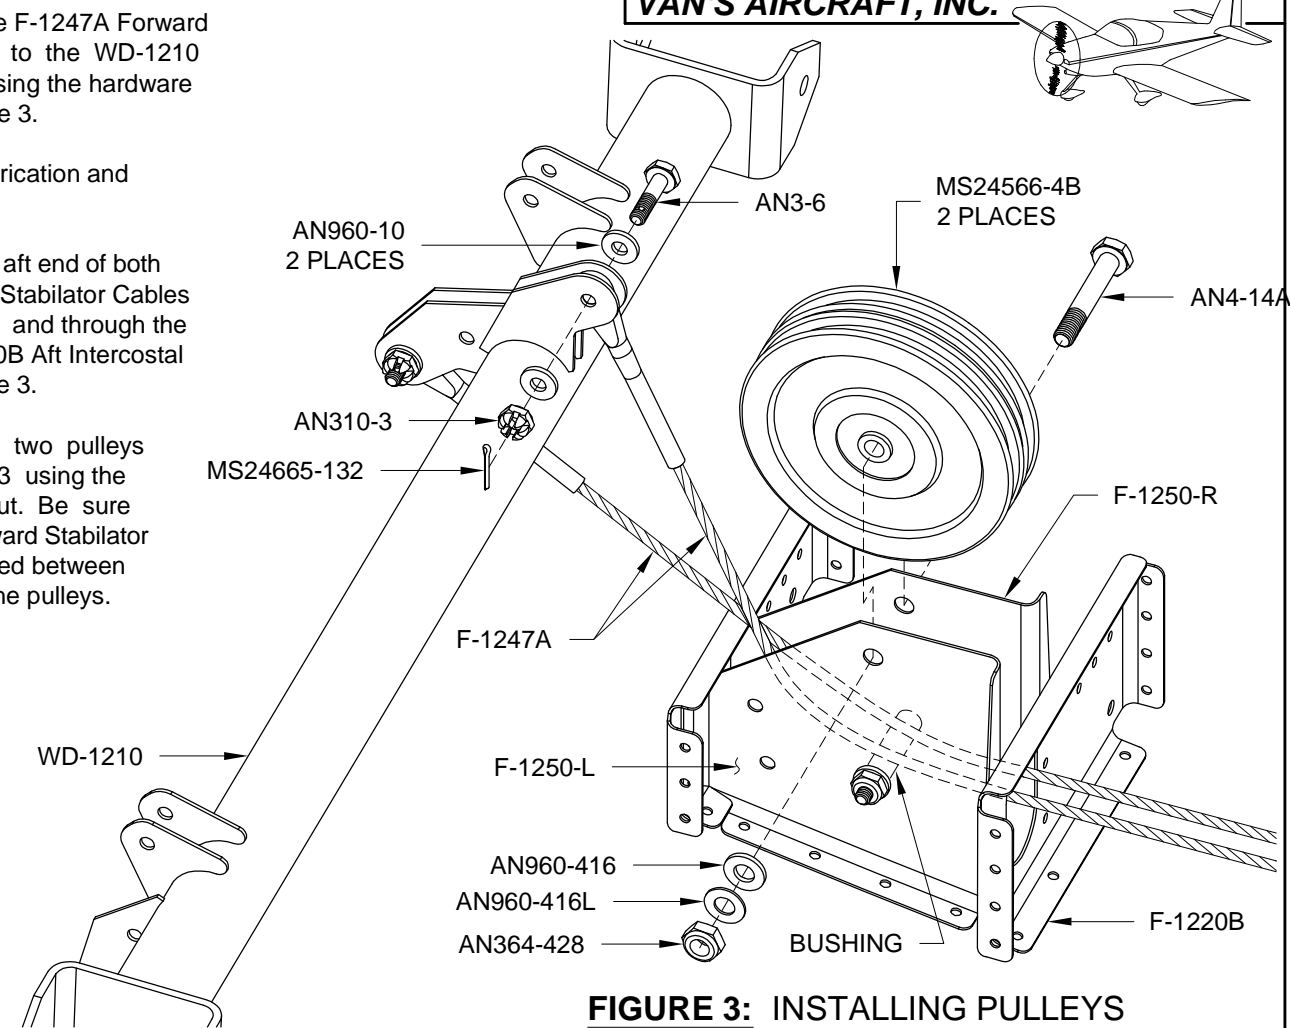

FIGURE 3: INSTALLING PULLEYS
Step 3: Secure the F-1247A Forward Stabilator Cables to the WD-1210 Control Column using the hardware called out in Figure 3.
Step 4: Route the aft end of both F-1247A Forward Stabilator Cables over the bushing and through the hole in the F-1220B Aft Intercoastal as shown in Figure 3.
Step 5: Install the two pulleys shown in Figure 3 using the hardware called out. Be sure the F-1247A Forward Stabilator Cables are captured between the bushing and the pulleys.